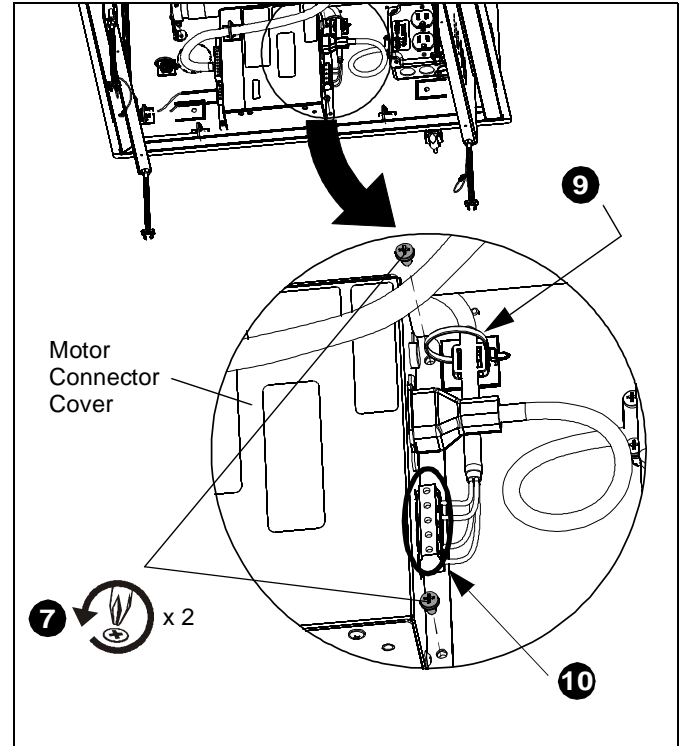

Figure 2
7. Remove and save motor connector cover screws. (See Figure 2)
8. Remove motor connector cover. (See Figure 2)
9. Cut cable tie which is holding motor wiring in place. (See Figure 2)
10. Unplug motor from control box. (See Figure 2)